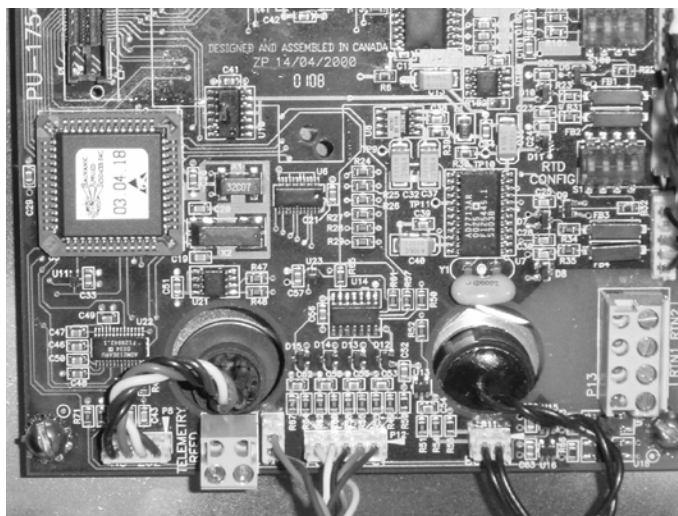

Figure 3-1 Pulse input connection on motherboard
3. Unplug pulse input cable from Base Assembly to PCB Pulse Input connector to avoid counting unnecessary pulses (see Figure3-1).